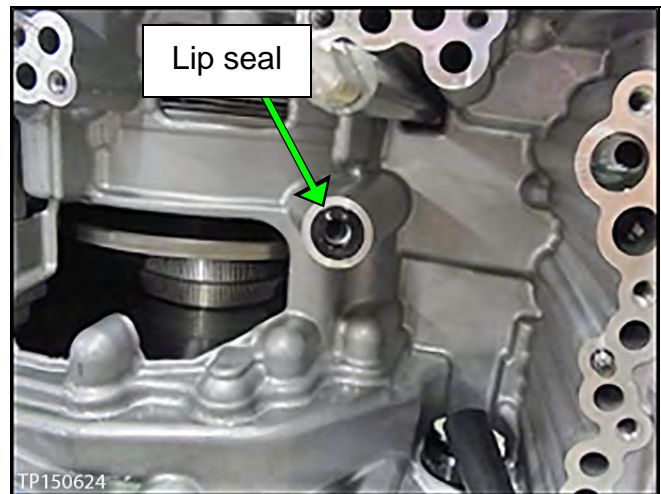

Figure 82
1. Install a new lip seal (see Figure 82).